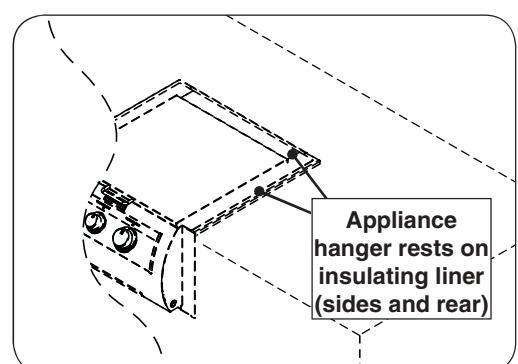

Fig. 3-4 Install appliance into liner
**Important:** **Do not allow the appliance hanger to come in contact with the countertop or any combustible surface (see Fig. 3-4).**